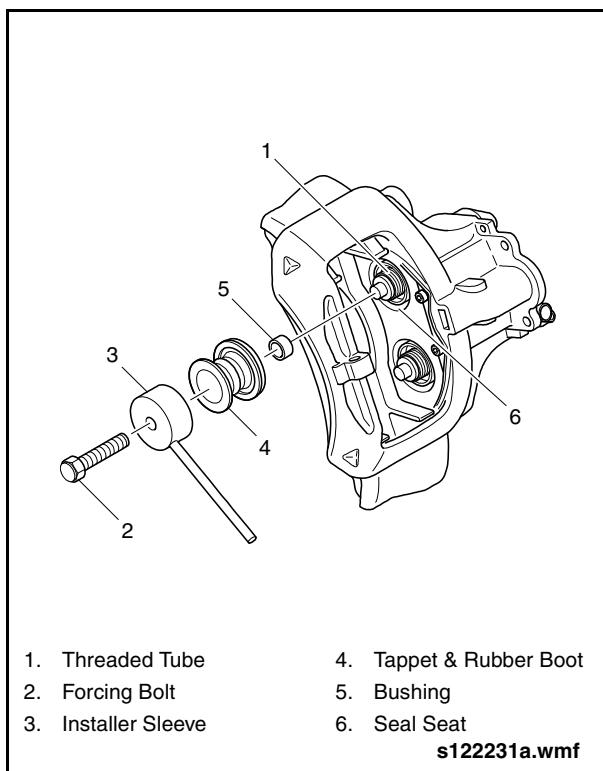

Fig. 2-137: Installing Tappet & Rubber Boot
9. Hold the installer sleeve (Item 82 from special tools list) against the rubber boot and use the long forcing bolt to press the rubber boot against the stop in the seat. See "Fig. 2-137: Installing Tappet & Rubber Boot" on page 118.